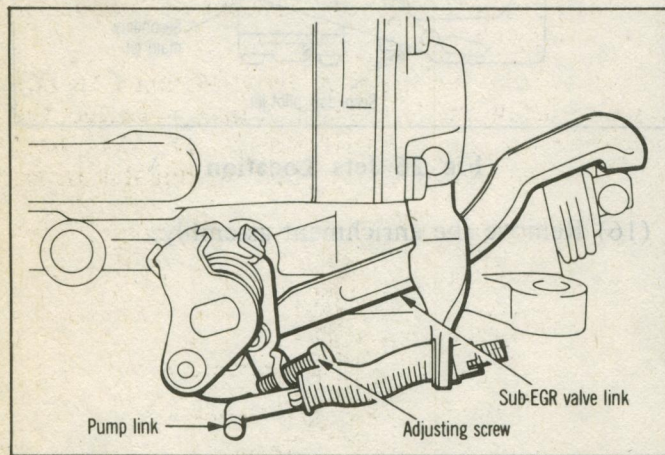

Fig. 28 Removing Pump Link and Sub-EGR Valve Link
(17) Disconnect the pump rod from the throttle shaft lever and remove the accelerator pump assembly.
(18) Remove the sub-EGR valve link retaining clip and remove washer and spring, then disconnect the link. Do not touch the EGR adjusting screw because it was preset at manufacture. When the sub-EGR valve link is removed, use care not to distort it. (Fig. 28)
(3) Connect the sub-EGR valve link to lever and install spring, washer and retaining clip. (Fig. 28)
(4) Connect the accelerator pump rod to the throttle shaft lever. (Fig. 28)